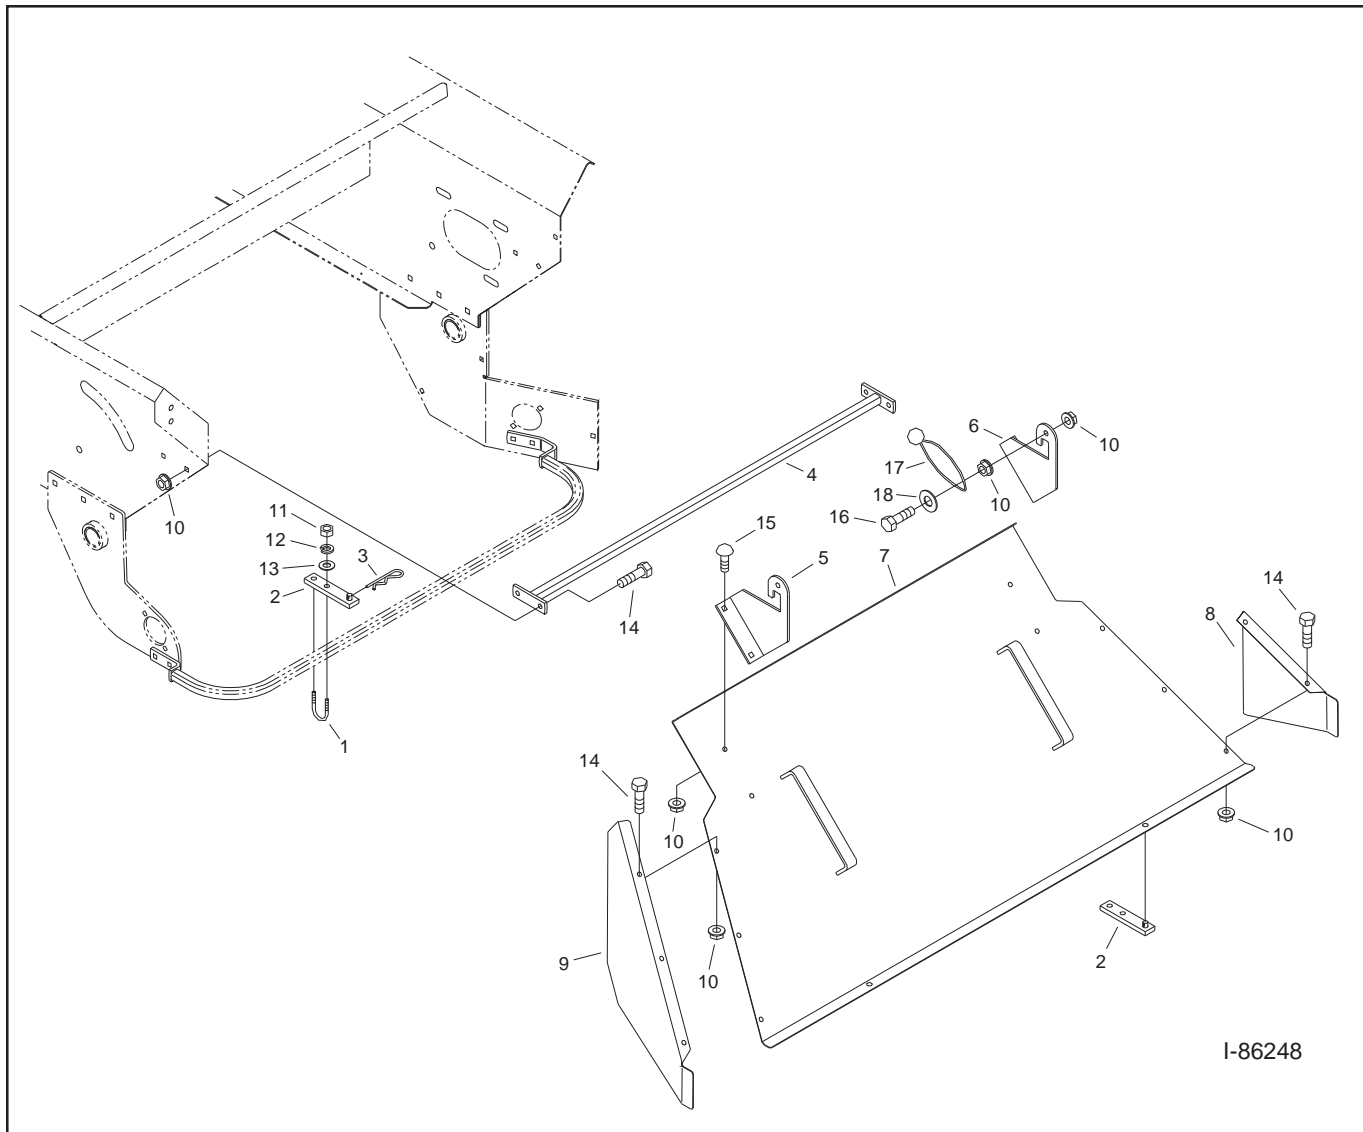

Figure B2 - Pathmaker Attachment Parts Detail
1. Refer to Figure B2 and the detailed parts list.